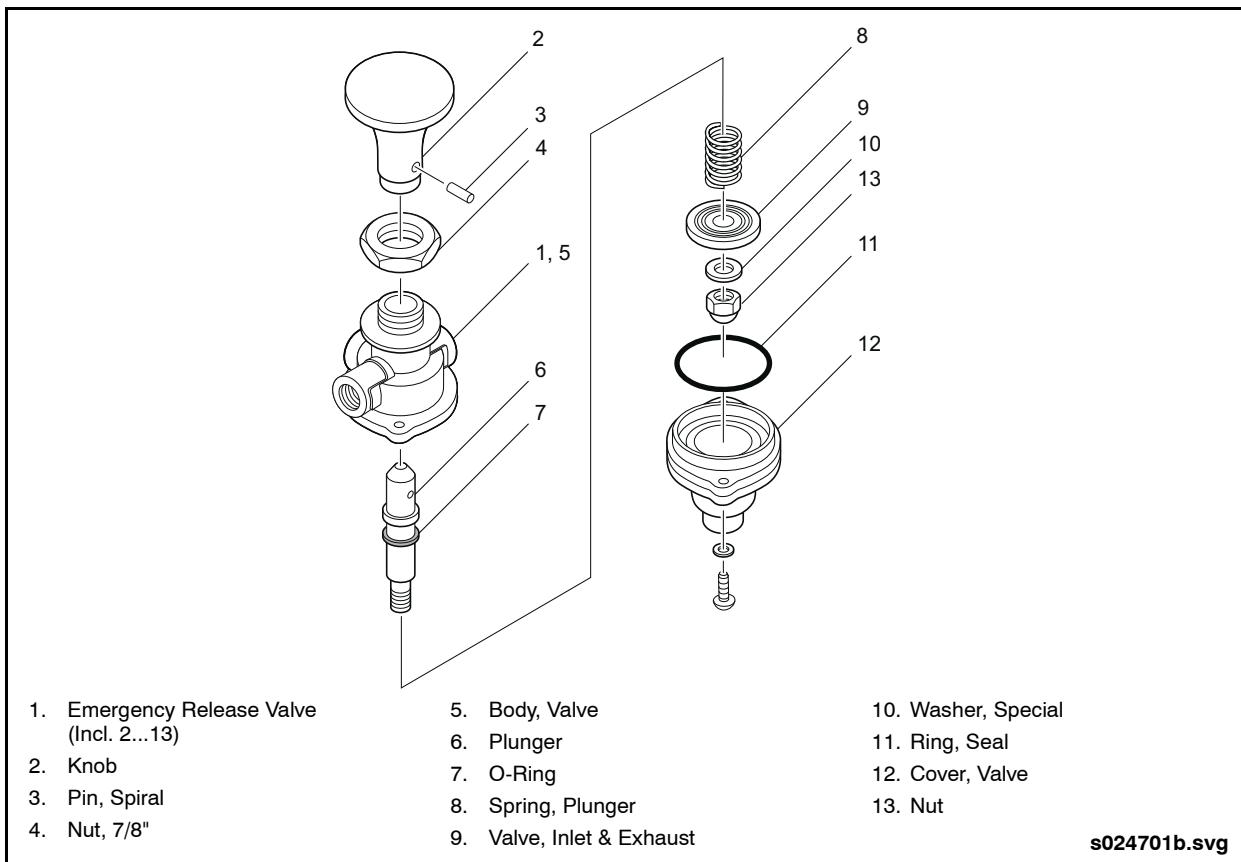

Fig. 8-23: Emergency Release Valve Assembly
2. Drive the button roll pin out with a punch and remove the button. See "Fig. 8-23: Emergency Release Valve Assembly" on page 82.